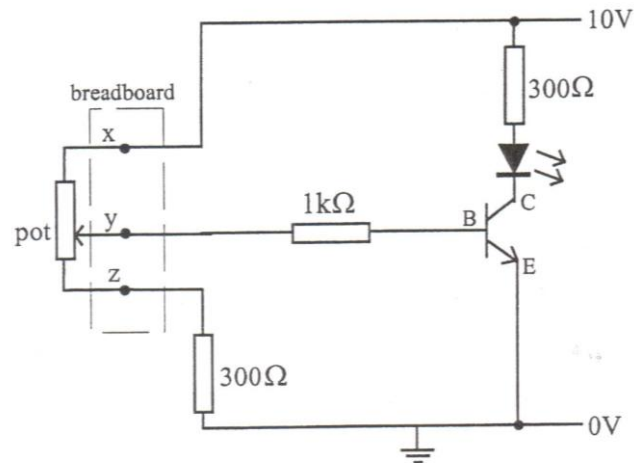

Fig. 5.2: Circuit diagram.
2. Construct the circuit in Fig. 5.2 on a stripboard using stranded wire for the power supply connections and single core for the breadboard connections. Make sure you solder the transistor, LED and potentiometer correctly. **Note:** connect three short